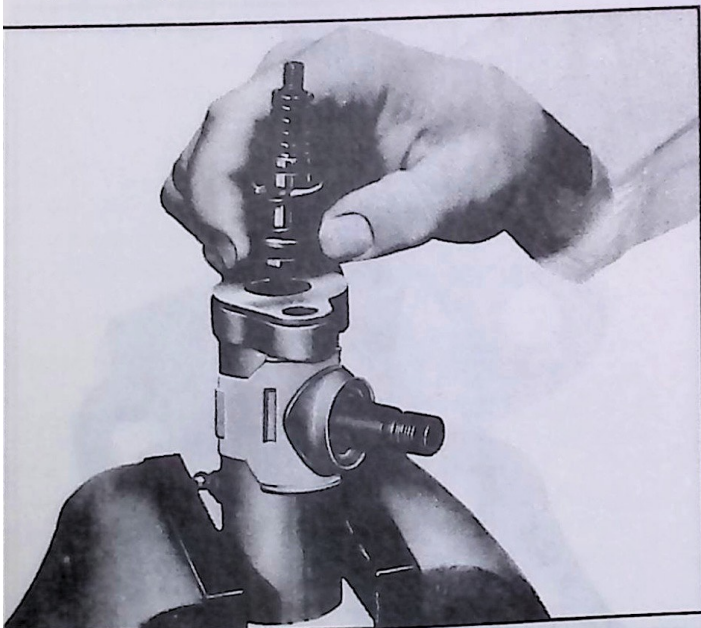

Fig. 64—Removing Valve Parts from Shaft
5. Remove spring, reaction spool, washer reaction spring, spring retainer, and seal (fig. 64). "O" ring may now be removed from the reaction spool.